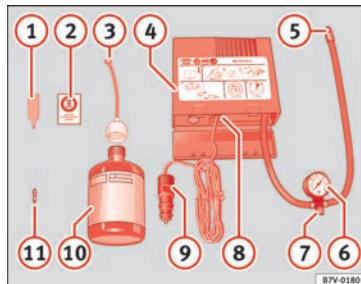

Fig. 89 Standard representation: contents of the anti-puncture kit.
» **Fig. 89:**
Screw in the inflator tube » **Fig. 89** ⑤ again and check the pressure on the gauge ⑥.